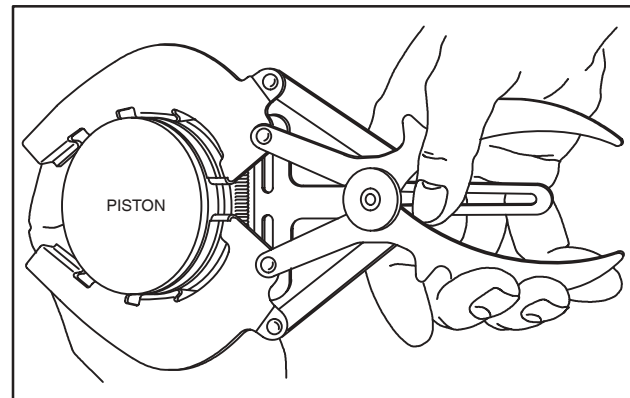

Fig. 1 – Removing Piston Rings
1. Remove compression rings and oil ring using ring expander, Tool #19340, Fig. 1.